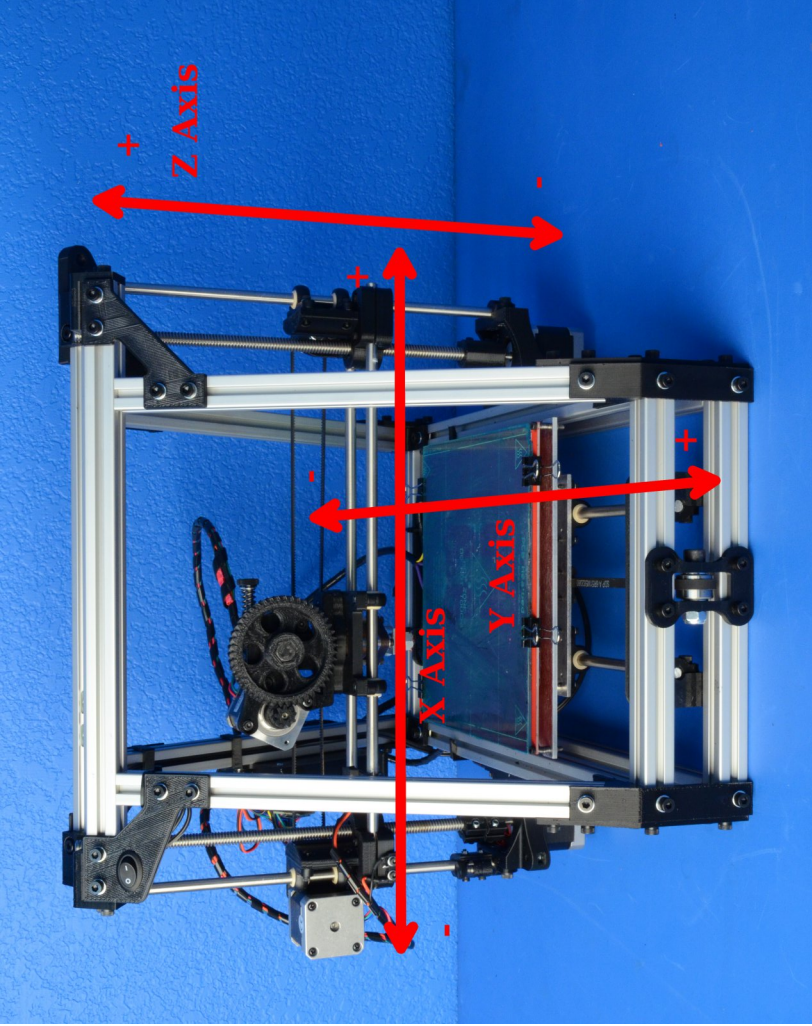

Fig: 2-1. Axes movement directions
3. Check that the three mechanical end-stops are aligned to contact with the respective ends. The mechanical end-stops are small switches located at the home point of each axis. (Fig. 2-1, 2-2, and 2-3)